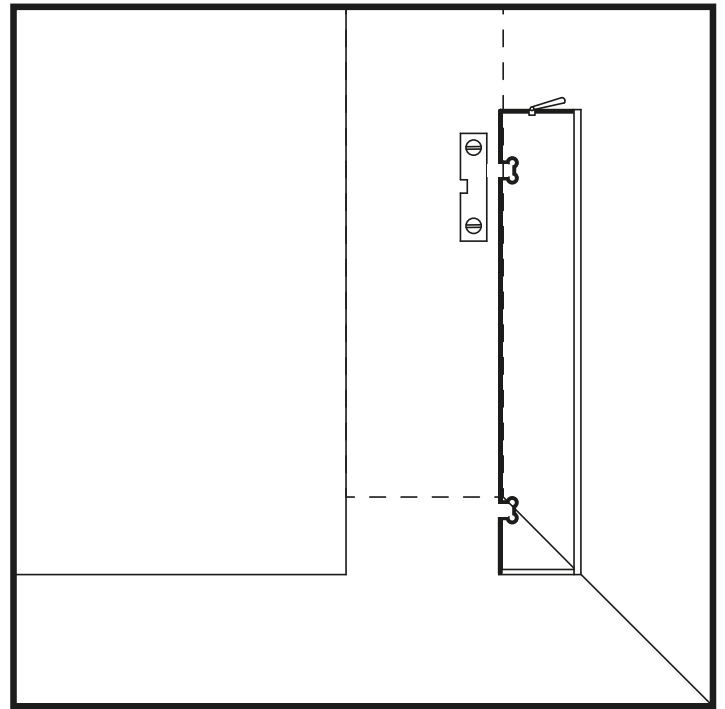

Figure 8
18. Install the telescopic tube at a 45 degree angle to the wall. Since the telescopic tube is adjustable, choose the mounting location according to your preference, but we recommend installing it towards the outer corner of the glass. (Figure 8)